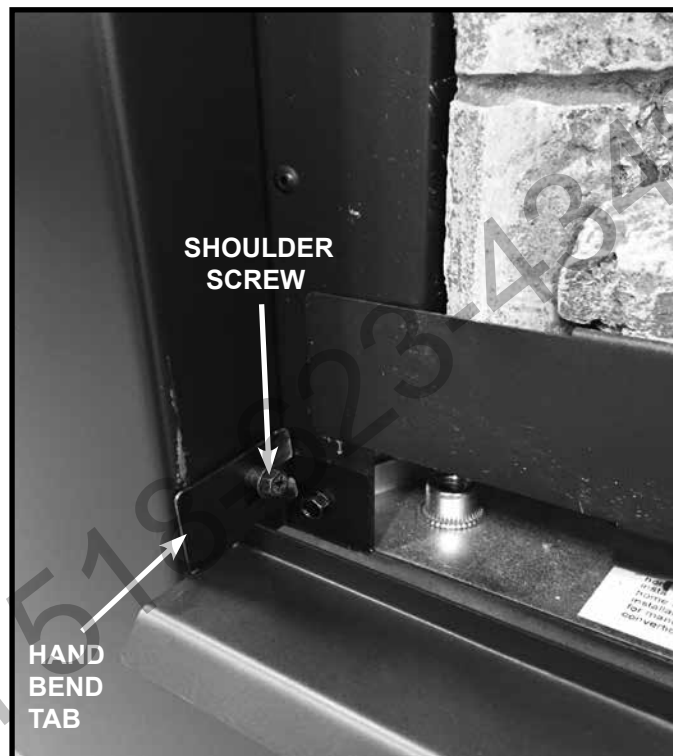

Figure 7 Hand Bend Tab & Shoulder Screw
17. If installed as a 4-sided surround, install shoulder screws in bottom corners of surround opening. Bend tabs on vanity panel toward the 90° return bend and hang on shoulder screws. See Figures 7 and 8.